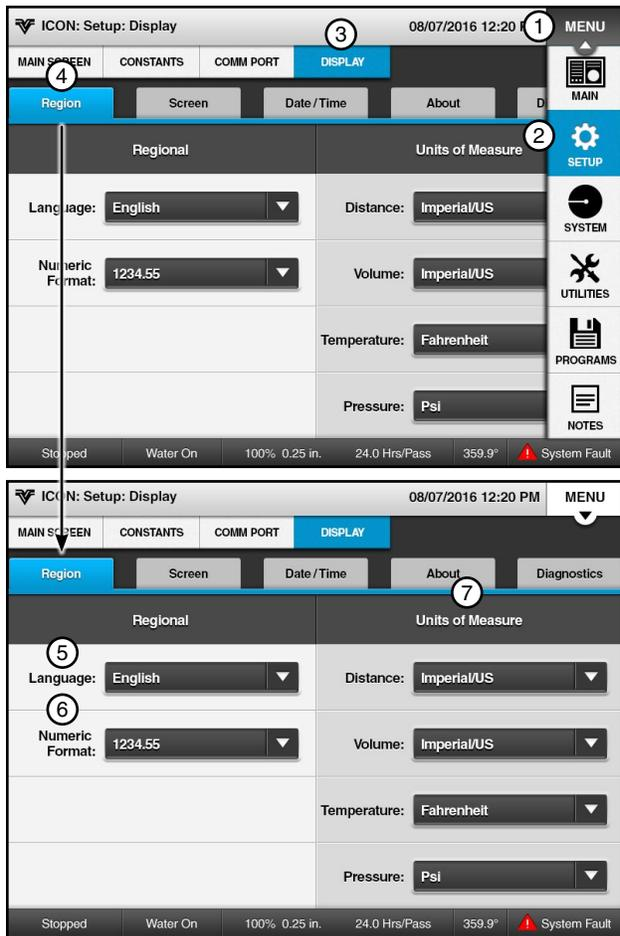

Figure 30-1 1. Menu 5. Language
1. On the Region screen set the Language, Numeric Format and Units of Measure for Distance, Volume, Temperature and Pressure. See Figure 30-1.